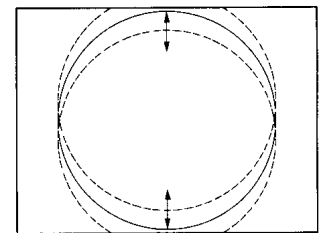

fig. 3
- Adjust the vertical size to obtain overscan (Fig. 3).